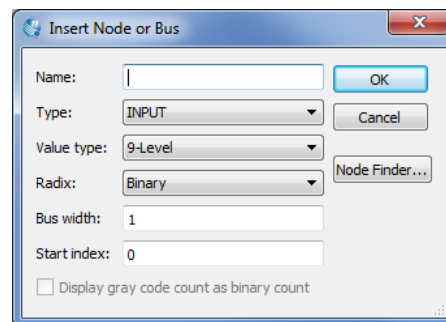
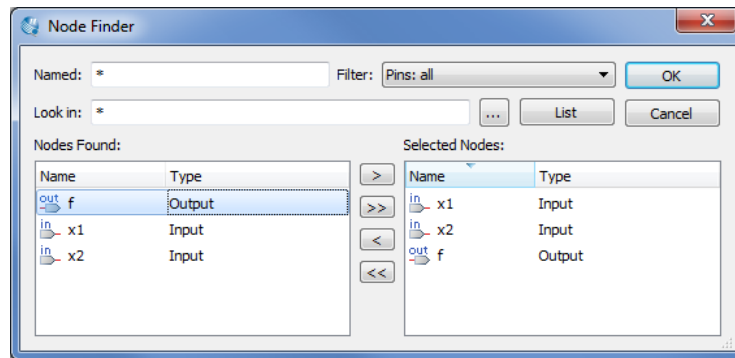
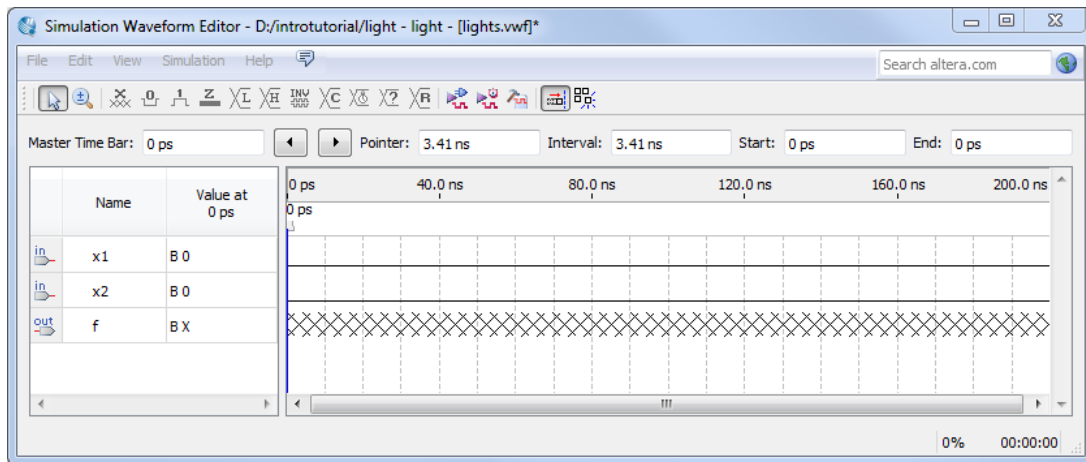

Figure 31. The Insert Node or Bus dialogue.
Figure 32. Selecting nodes to insert into the Waveform Editor.
Figure 33. The nodes needed for simulation.
3. Next, we want to include the input and output nodes of the circuit to be simulated. Click **Edit > Insert > Insert Node or Bus** to open the window in Figure 31. It is possible to type the name of a signal (pin) into the Name box, or use the Node Finder to search your project for the signals. Click on the button labeled **Node Finder** to open the window in Figure 32. The Node Finder utility has a filter used to indicate what type of nodes are to be found. Since we are interested in input and output pins, set the filter to **Pins: all**. Click the **List** button to find the input and output nodes as indicated on the left side of the figure.
Click on the *x1* signal in the Nodes Found box in Figure 32, and then click the > sign to add it to the Selected Nodes box on the right side of the figure. Do the same for *x2* and *f*. Click OK to close the Node Finder window, and then click OK in the window of Figure 31. This leaves a fully displayed Waveform Editor window, as shown in Figure 33. If you did not select the nodes in the same order as displayed in Figure 33, it is possible to rearrange them. To move a waveform up or down in the Waveform Editor window, click within the node's row (i.e. on its name, icon, or value) and drag it up or down in the Waveform Editor.